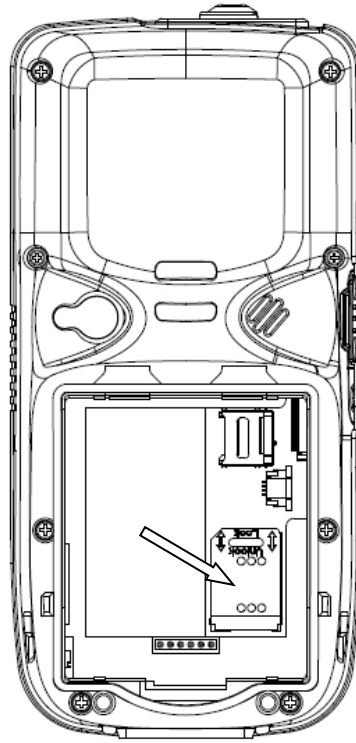

Figure 6
3. Open the Micro SD card slot. (See Figure 6)